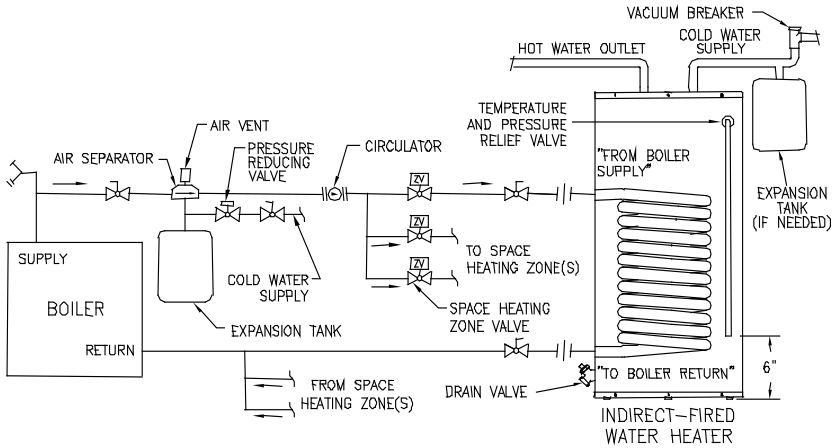

Fig. 2
1. For a space heating system that utilizes ZONE VALVES, refer to Figure 2. The indirect-fired water heater connection labeled “FROM BOILER SUPPLY” should be piped to the boiler supply piping. Mount the circulator making sure the flow arrow points toward the water heater. The use of shut-off valves and unions are recommended for future service convenience. The use of an air separator and vent is recommended to eliminate air in the system. Pipe and fittings between the boiler and indirect-fired water heater must be $\frac{3}{4}$ " (19 mm) diameter or larger.